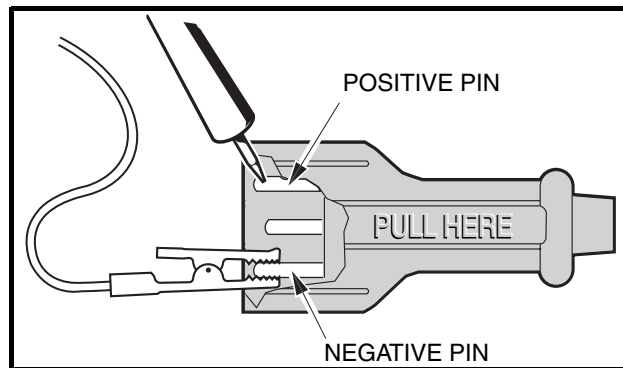

Figure 3-23 DC Plug Test
2. Using a continuity tester (CCI P/N 1011273) or multimeter (CCI P/N 1011480) set to 200 ohms, connect the test probes to the pins marked (+) and (–) on the DC plug (**Figure 3-23, Page 3-24**). Note the reading.